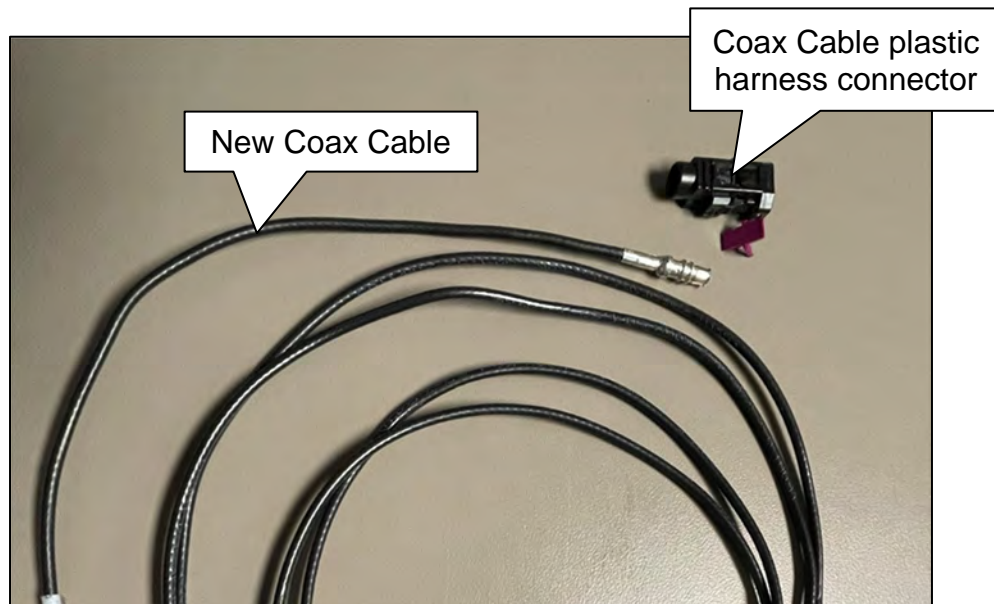

Figure 12
17. Remove a plastic harness connector (Figure 12) from one end of the new Rear View Camera Coaxial Cable (Coax Cable).